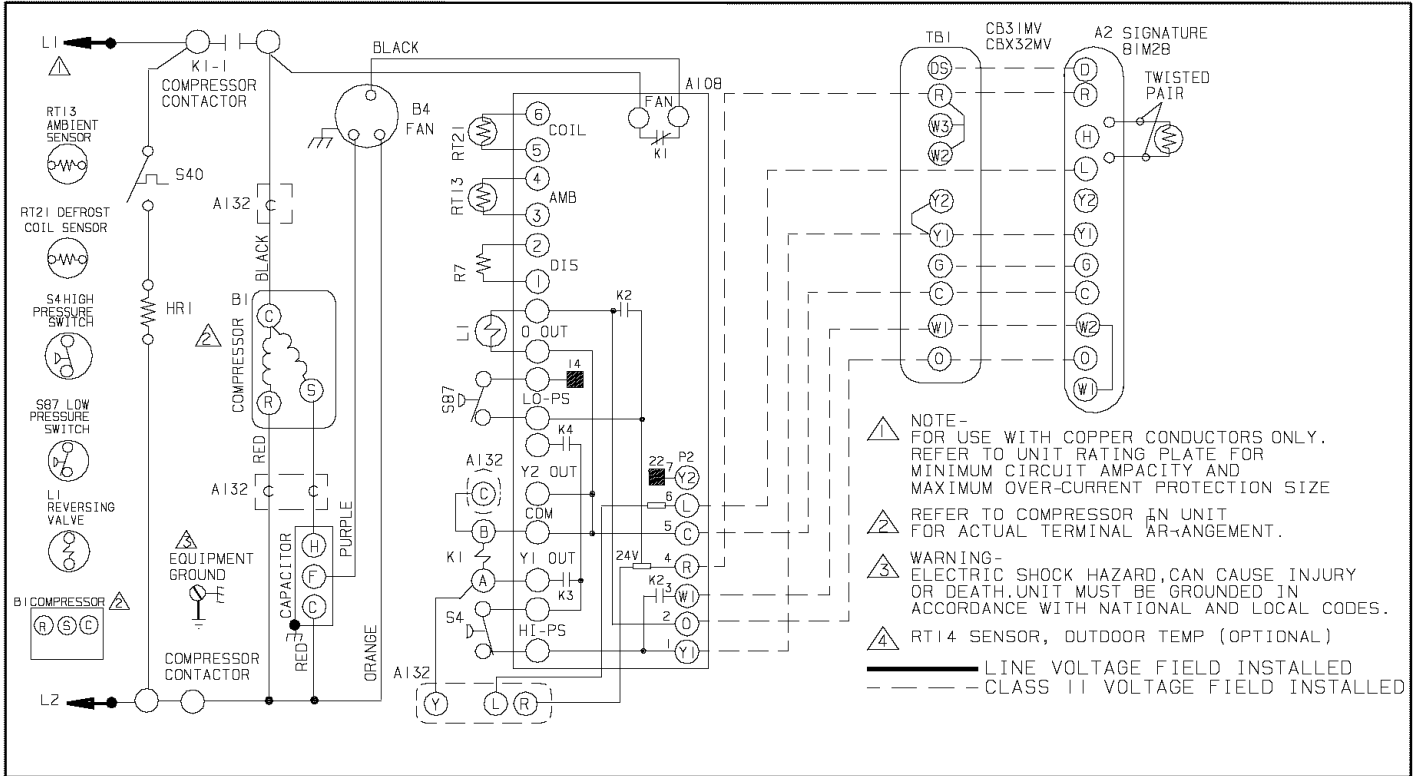

Figure 14. Typical Low-Voltage Field Wiring
2. Install low voltage wiring from outdoor to indoor unit and from thermostat to indoor unit as illustrated in figure 14.